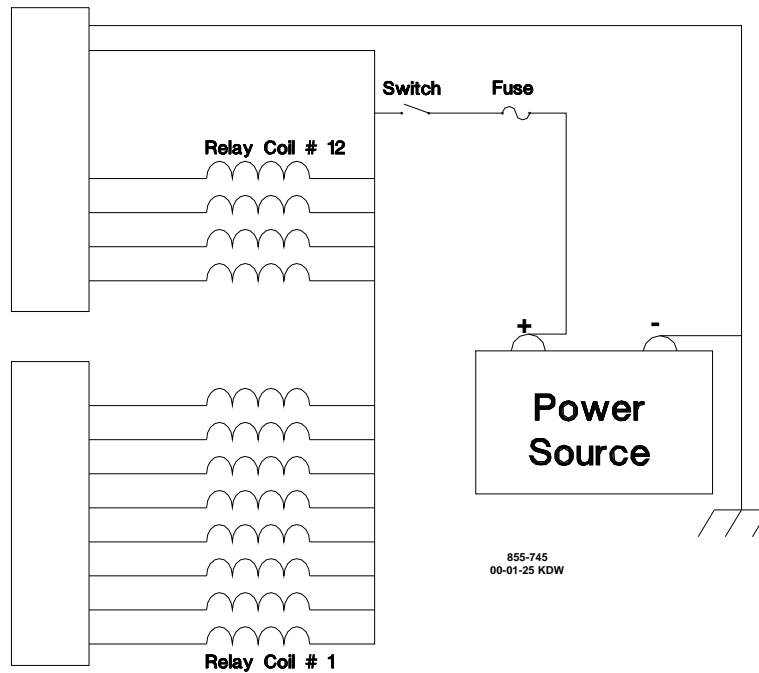

Figure 2-2. Discrete Output Wiring Example
- Refer to Figure 2-2 for discrete output wiring.